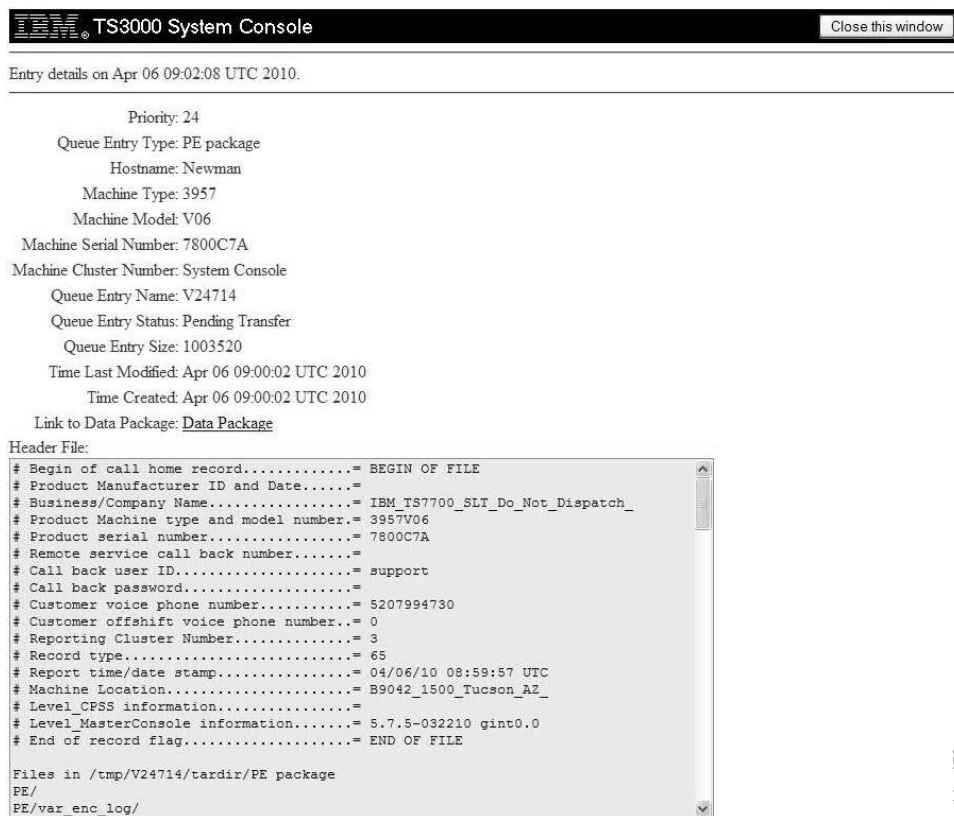

Figure 176. Call Home Queue Management – Call Home Queue Entry Details
6. Click **Show Selected Entry Details**. Figure 176 on page 144 displays.